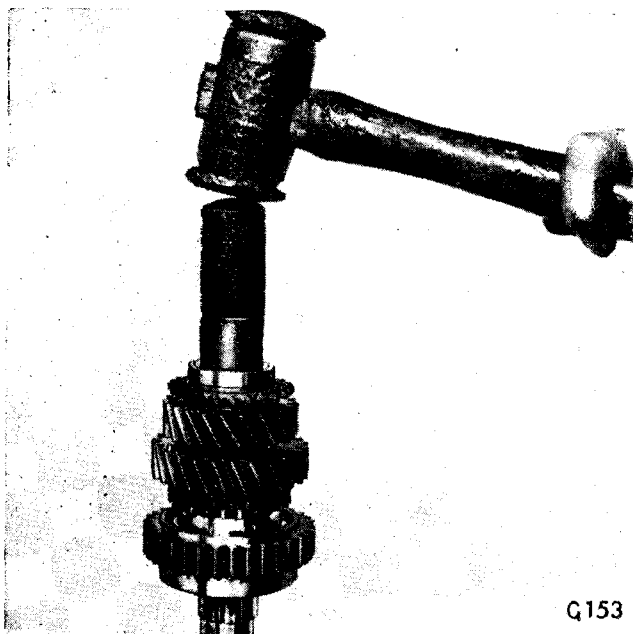

Fig. 33. Removing mainshaft circlip
- Third gear baulk ring (32).
- Thrust washer (14).
- First speed gear (15)
- First gear baulk ring (16).
Using Tool No. S.144, remove the circlip (30) (Fig. 33).